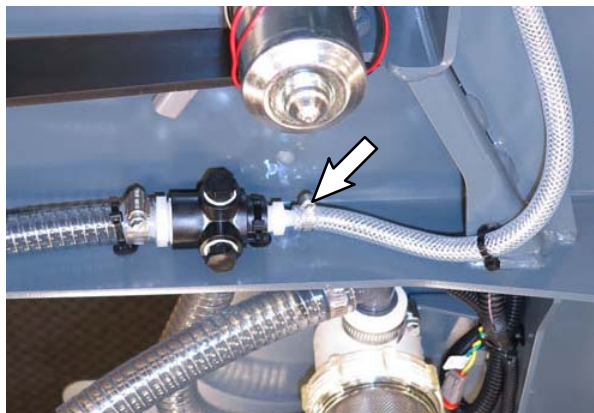

**FIG. 9**
22. Use a M8 hex screw (25) and a flat washer (26) to install the ec- H2O pump (28) / pump bracket (24) onto the frame of the machine. (Fig. 9 / Fig. 8)